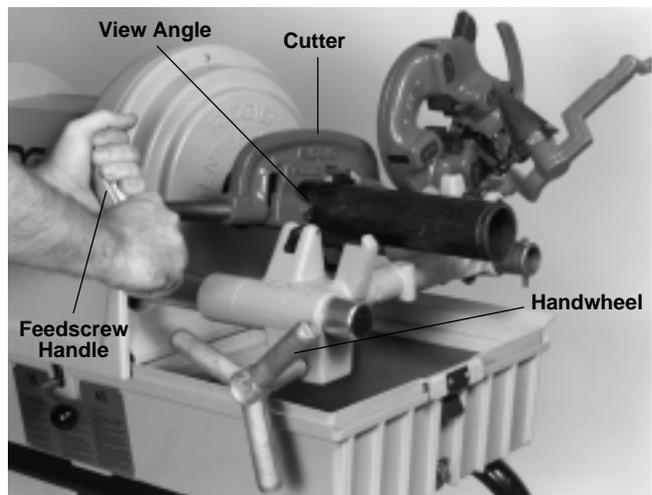

Figure 8 – Cutting Pipe with 364 Cutter
3. Tighten cutter feed screw handle on pipe keeping wheel aligned with the pipe (*Figure 8*).